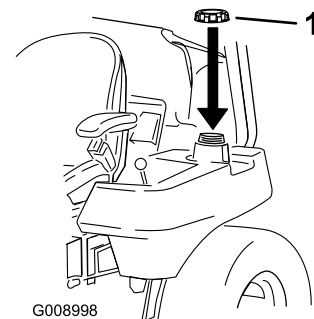

Figure 13
- Remove both existing fuel caps and replace them with the new fuel caps (Figure 13).